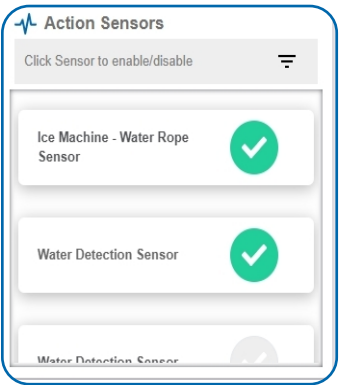

Figure 22
- By default, the sensor(s) will not be assigned to the action conditions you've just set. To assign a sensor, find the device(s) you want to designate for this action and select. Selected sensor boxes will turn green when activated. Choose the sensor box again to unassign the sensor from the action. See Figure 22.